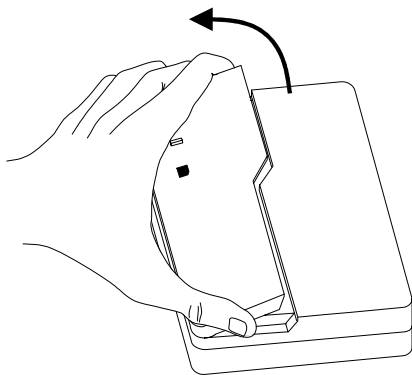

Figure 2. Opening the Sensor Door
- Open the sensor door by grasping it at the top and bottom with one hand and pulling upward (see Figure 2).